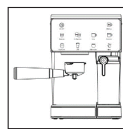
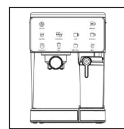

Fig. 6
Fig. 7
- Install the filter holder (4) into the installation place (fig. 6) and turn the knob (3) to the right until bumping (fig. 7).
- Install a cup of suitable height and with capacity at least 300-400 ml on the grid (2).